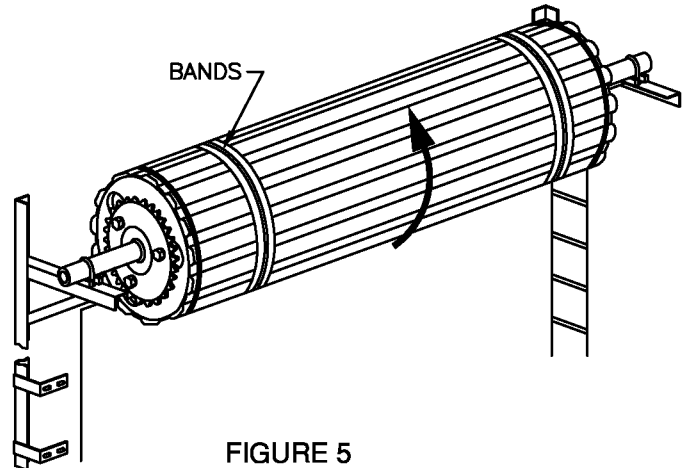

FIGURE 5
- 5A APPLY TENSION TO SPRINGS BY ROTATING DOOR TWO (2) COMPLETE TURNS IN A FORWARD DIRECTION (SEE FIGURE 5). BOTTOM ANGLE SHOULD BE IN A DOWN POSITION (6 O'CLOCK).